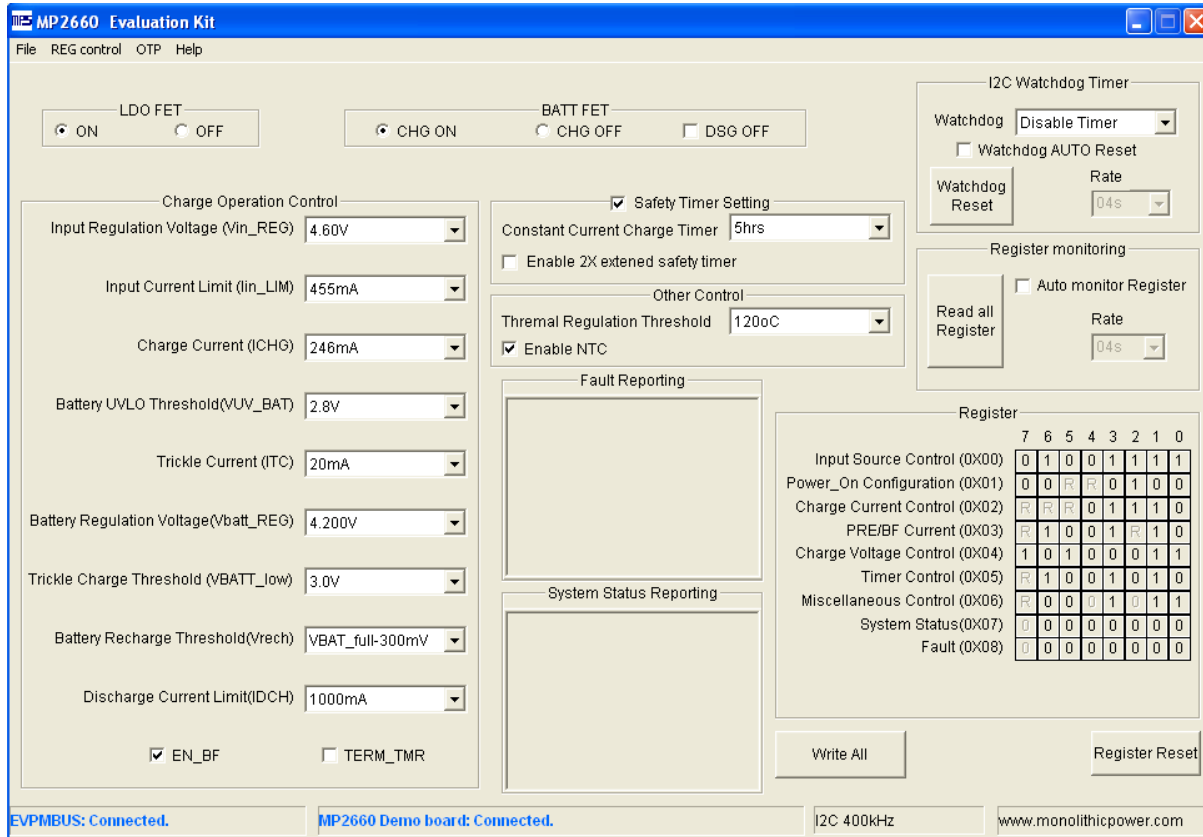

Figure6 MP2660evaluation software
5) Turn on the computer. Launch the MP2660 evaluation software. The main window of the software is shown in Figure 6.